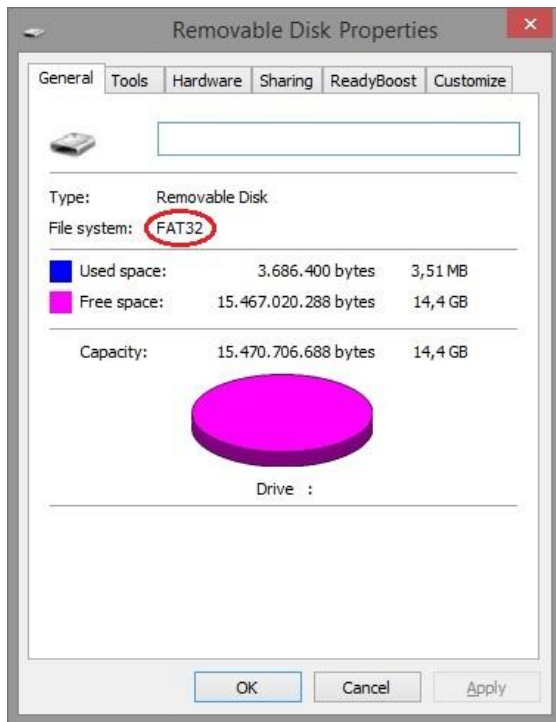

Figure 1 - File system
5. Verify File system is FAT or FAT32. (see Figure 1)